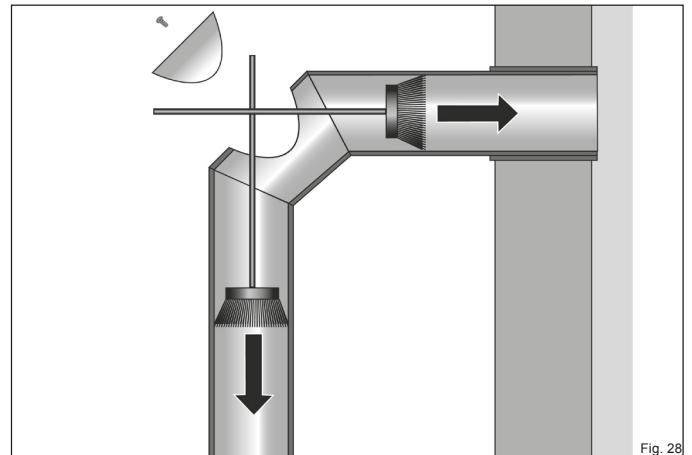

Fig. 28
- ▶ Open the clean-out port on the flue pipe (Fig. 28).
- ▶ Sweep the deposit to the back into the chimney and down into the stove (Fig. 28).